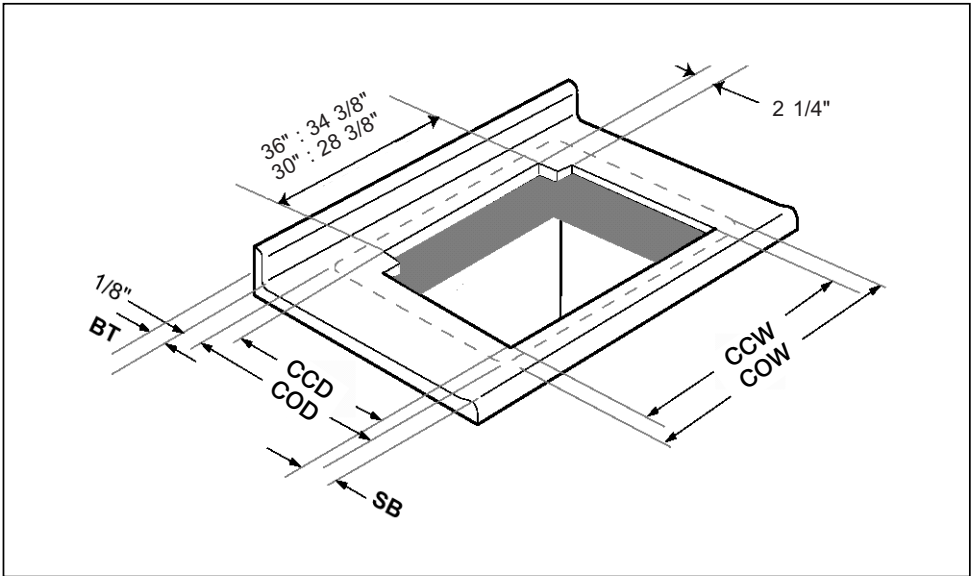

Fig. 8
B. FOR INSTALLATION WITH ANOTHER BRAND OF COOKTOP (Figure 8)
See Figure 8 for cutout widths and dimension definitions.
6. Cut countertop using dims: CD, CW and SB as defined in Figure 8.